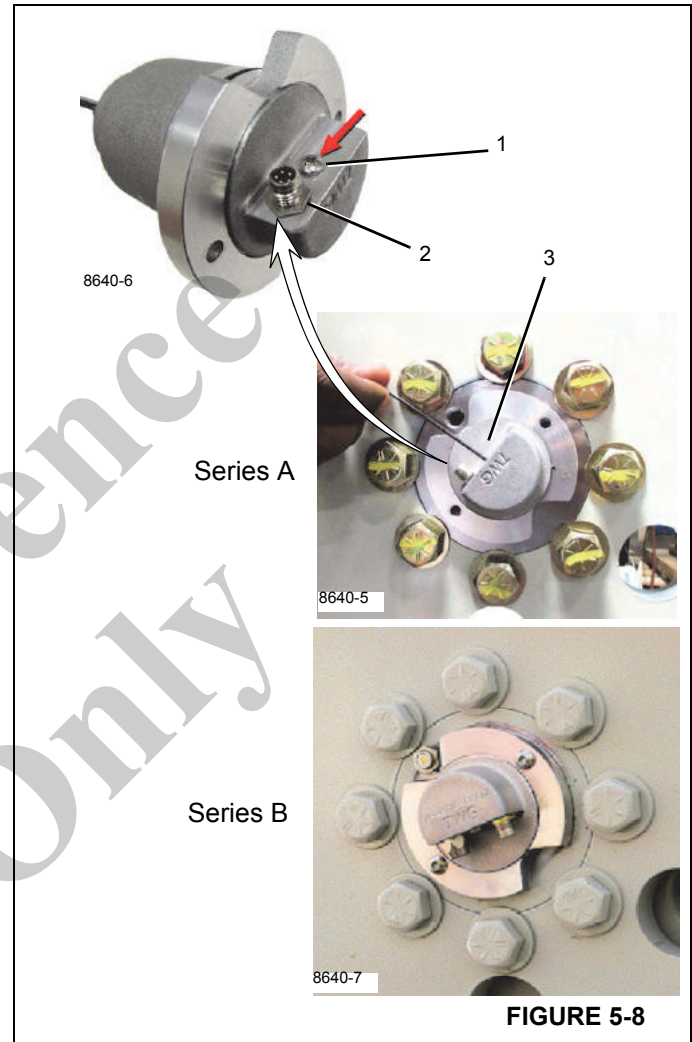

FIGURE 5-8
2. Remove power from the MWI by disconnecting the DRI cable (2, Figure 5-8).
3. Remove the sealed Hoist Monitoring System (HMS) programming button cover screw (1, Figure 5-8) on the DRI.
4. Push and gently hold the programming button (3, Figure 5-8) and return power to the MWI by reconnecting the DRI cable.
NOTE: Holding the button for longer than 15 seconds puts the HMS into Shipping Mode for Series A units. (See Figure 5-8). See Shipping Mode for more information.
NOTE: Failure to replace the programming screw (1, Figure 5-8) could effect the operation of the MWI.
3. Remove the programming button cover screw (1, Figure 5-8).